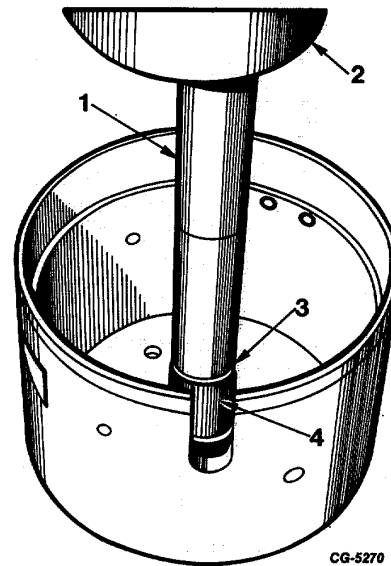

Fig. 24 Installing Upper Bushing Using Bushing Installer SE-1955-7
On distributors without tachometer drive, groove in outside diameter of bushing must be positioned at the top (Figure 24).
2. Position distributor housing in press. Insert bushing installer (SE-1955-7) into bushing (Figure 24).